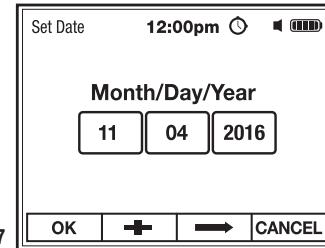

Fig. 27
- Use the **F2 +** soft key to set numeric value (highlighted in red), (Fig. 27).
- Use the **F3 ⇄** soft key to select Month, Day or Year (Fig. 27).
- Press the **F1 OK** soft key to save setting and return to Date/Time Menu (Fig. 27).